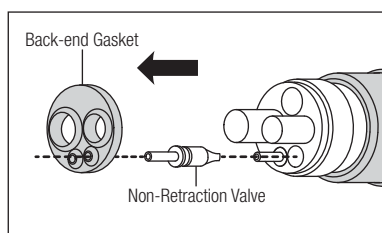

Fig. 16
- 3) Pull and remove the water tube, and replace the Non-Retraction Valve (Fig. 16).